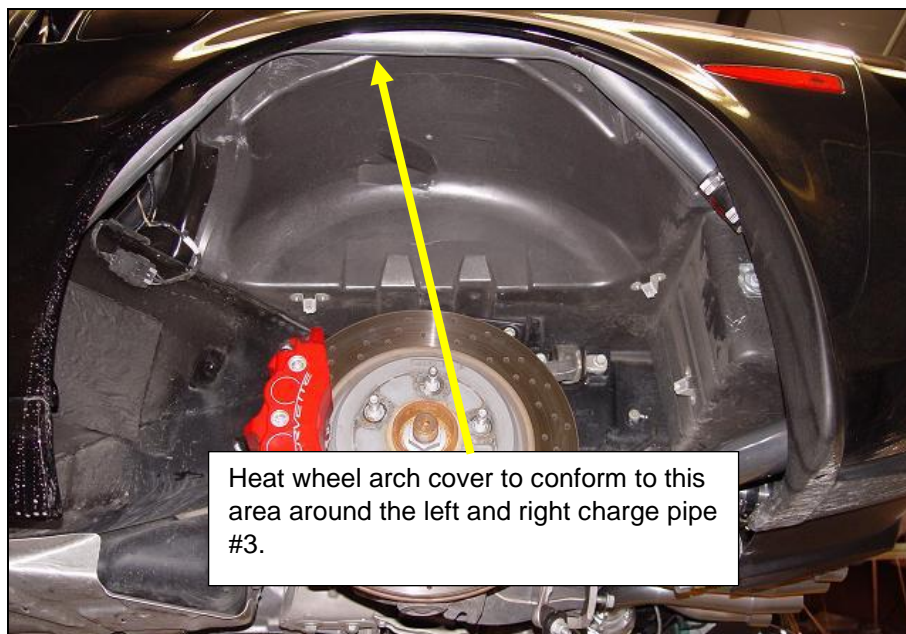

Figure 68
2. It will be necessary to heat the top of the wheel arch cover with a heat gun to mold the plastic slightly to clear the charge pipe and allow the cover to install correctly (**Figure 68**).